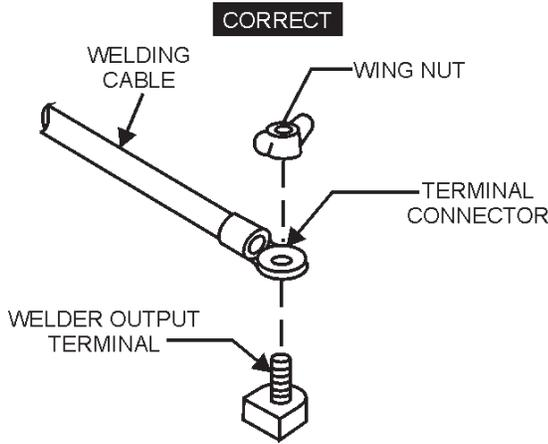

Figure 4. Welding Cable Connection (Correct)
Connect the welding cables (Figure 4) to the welder's output terminals located on the control panel. The output terminals have (+) and (-) polarities. Select the appropriate polarities according to the application (See Welding Application, Table 5).
1. Connect the welding cables (electrodes) to the generator's output terminals (Figure 4). For **minimum** welding current (min-130 amps), use an eyelet terminal connector with a 5/64" to 1/8" diameter, for **maximum** welding current (110 - max amps), use an eyelet terminal connector with a 3/32" to 5/32" diameter